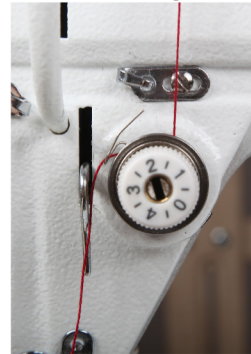

Figure 42
Step 5: Take thread between the two tension discs from back to front all the way around. **See figure 42** (release the tension on the tension disc using the tension release lever. This will help to ensure your thread gets between the disc easier.)